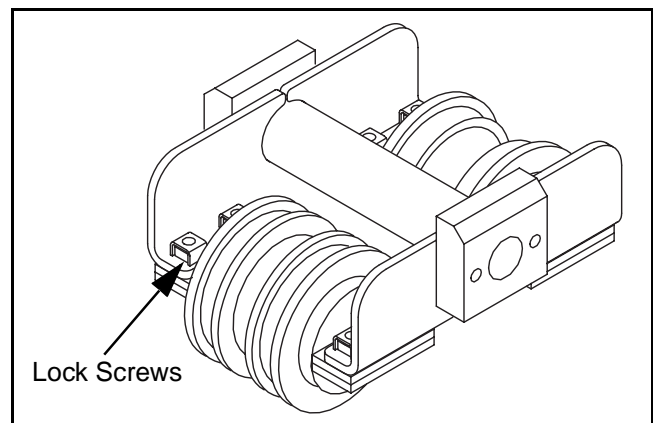

Figure 6 - 62 Track roller
- 4) Remove four lock screws which secures the roller to the bogie. (Figure 6 - 62)